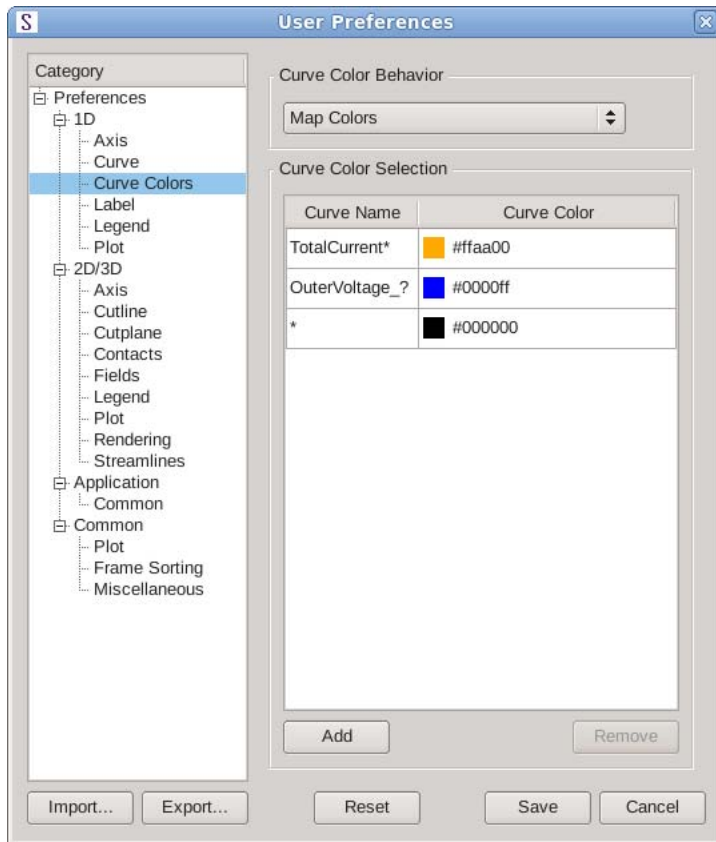

Figure 22 Mapping curve colors
2. Under Curve Color Selection, specify the mapping as required (see Figure 22 on page 42).